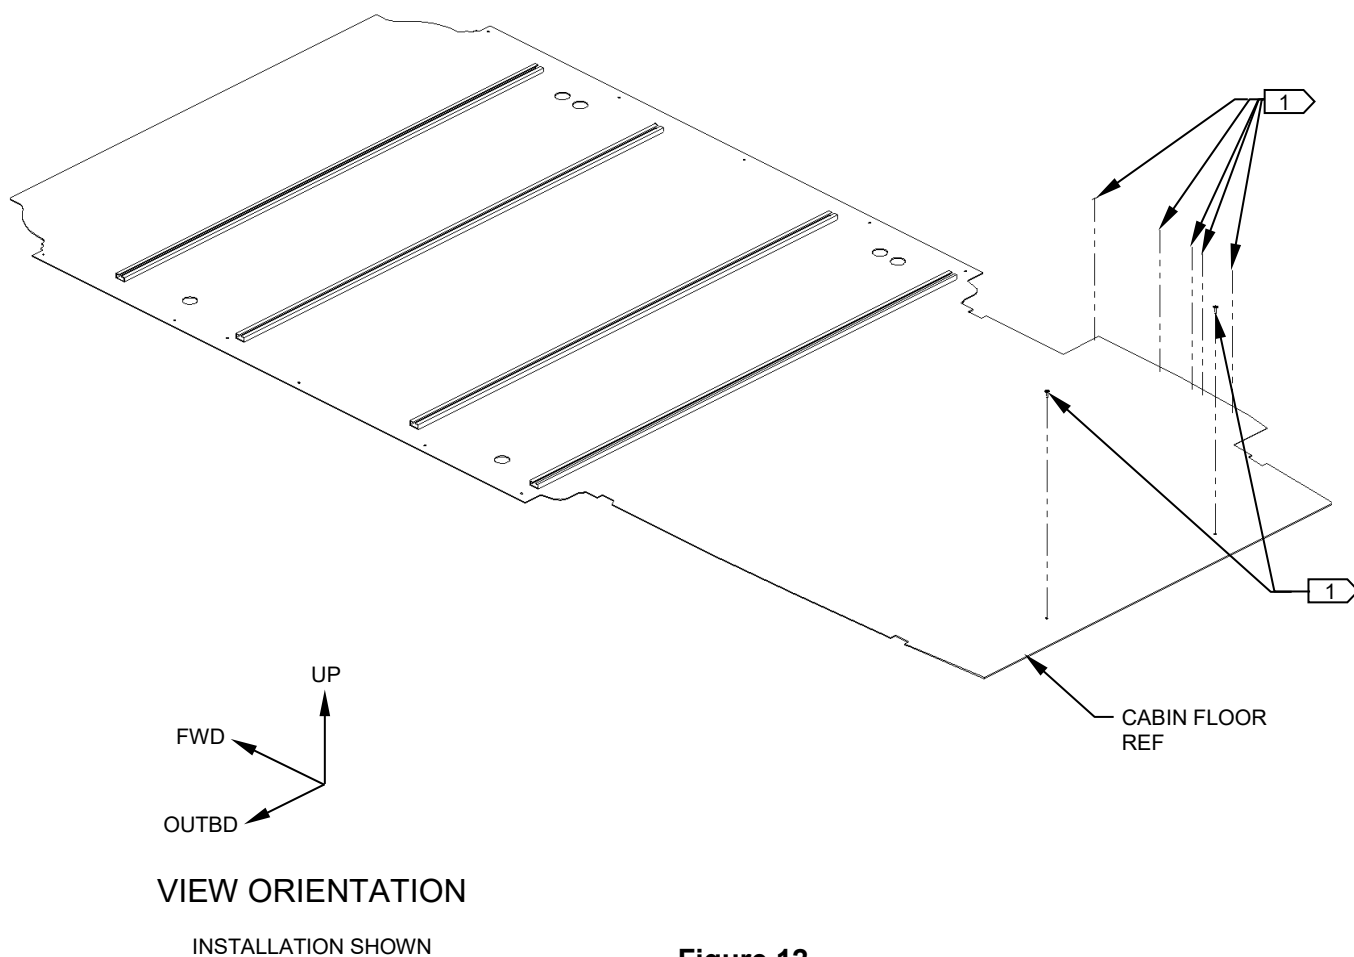

Figure 12
1. Re-install OEM fasteners as shown. Reference Figure 12.